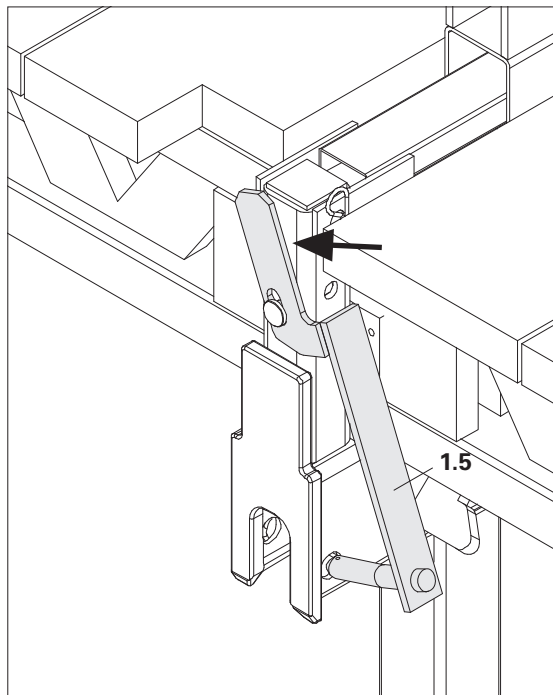

Fig. B1.21
- securing bolt (1.5) completely pivoted to one side? (Fig. B1.21)